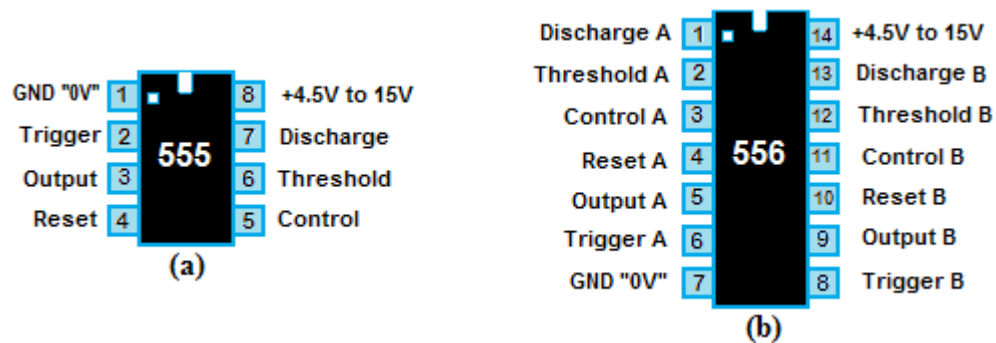

Figure 8-1: Timer ICs; (a) 555 (8-pin) and (b) the 556 (14-pin)
The 555 Integrated Circuit (IC) is a popular timer that is widely used in electronic and has many applications. Its dual version is called 556 in which includes two independent 555 ICs in one package. The following illustration, figure 8-1, shows both the 555 (8-pin) and the 556 (14-pin).